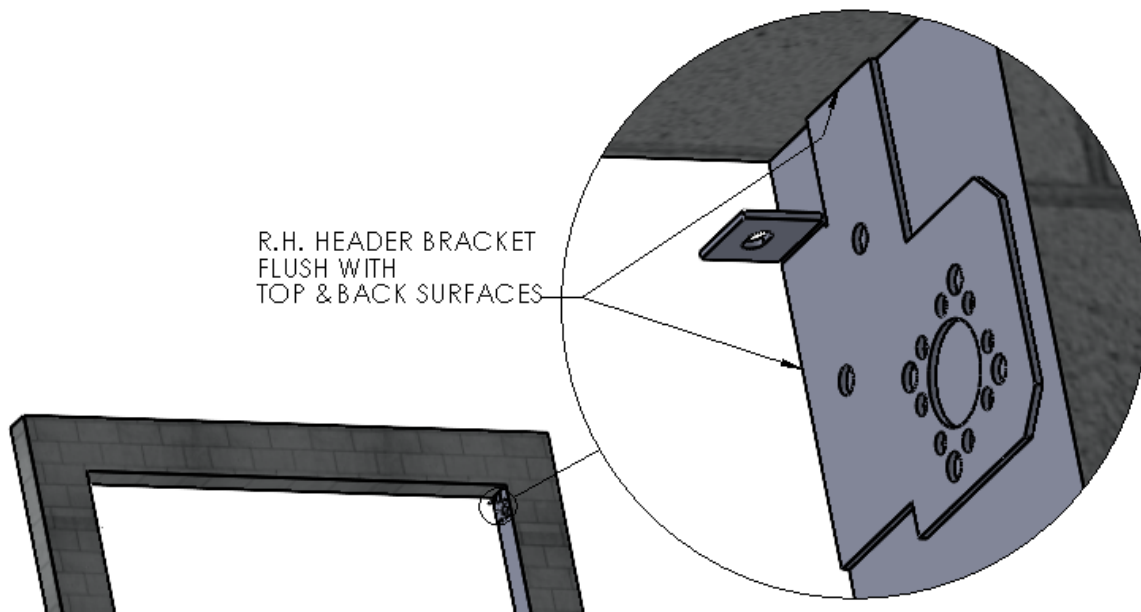
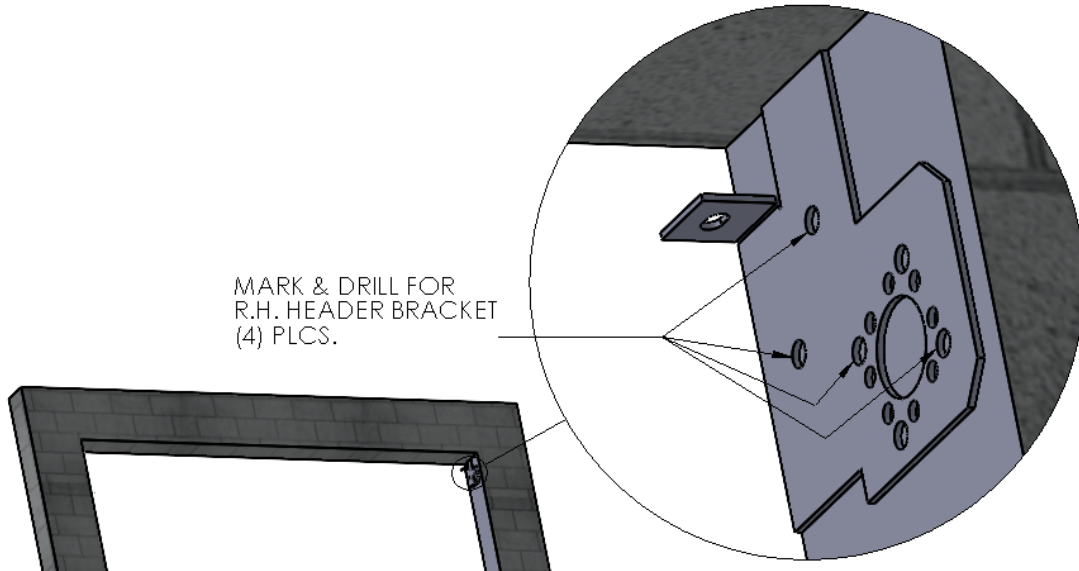

Figure 1 LOCATE R.H.HEADER MOUNTING BRACKET
Figure 2 MARK/DRILL R.H. HEADER MOUNTING BRACKET
1. At the upper RIGHT of the door opening, use the R.H. Header Mounting Bracket to transfer hole locations to the mounting surface.(Figure 1 LOCATE R.H.HEADER MOUNTING BRACKET) & (Figure 2 MARK/DRILL R.H. HEADER MOUNTING BRACKET)